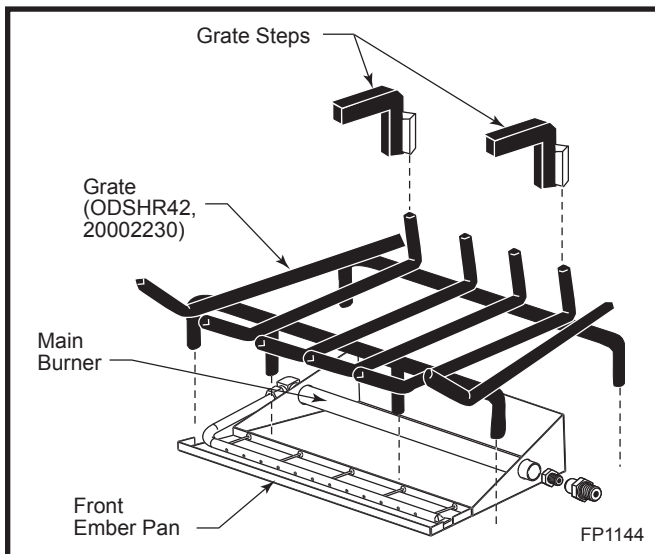

Fig. 7 Grate assembly.
1. Place the grate steps onto the back of the grate as shown in Figure 7.
2. Place grate assembly over top of burner so that the front two middle legs of grate are resting against the front portion of the main burner area. (Fig. 7)